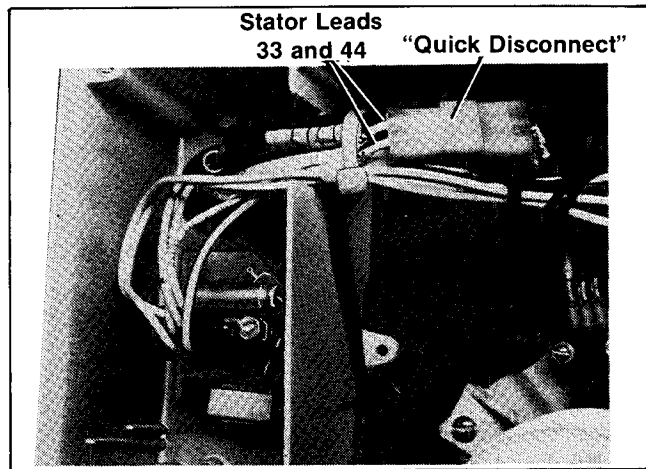

Figure 8-6. Stator Leads 33 and 44
8. Reconnect stator leads 33 and 44 to the voltage regulator at "quick disconnect" shown in Figure 8-6.